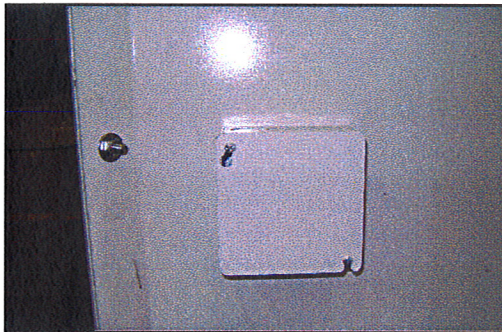

Figure 10
5. Bring power (proper voltage) to 4" box mounted on lower section of lift. See Figure 10.